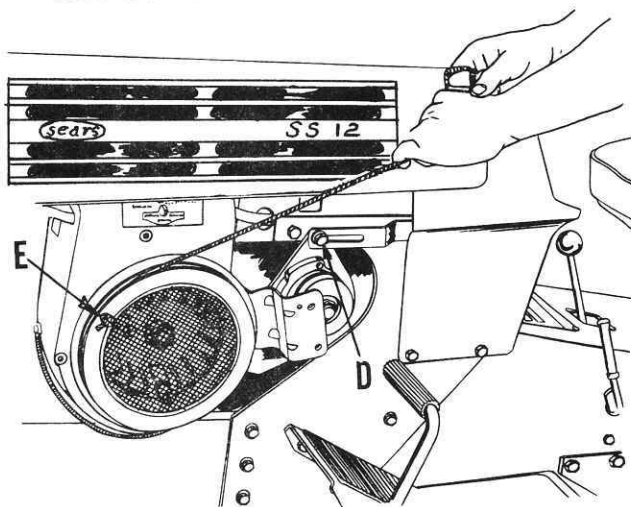

FIG. 26
- b. Loosen nut (D, Fig. 26), and push motor-generator forward. This will take tension from V-belt. Remove belt.
- c. Secure a piece of rope and tie a knot in one end. Place this knot into notch (E), in engine pulley, refer to Fig. 26.
DO NOT REPLACE V-BELT OR GUARD WHILE ENGINE IS RUNNING. The above method of starting is only a means to get unit to nearest source of battery charging. **DO NOT** operate tractor any longer than necessary with V-belt and guard removed. Stop engine and replace as soon as possible. Be sure to have proper tension on belt, retighten nut (D, Fig. 26).